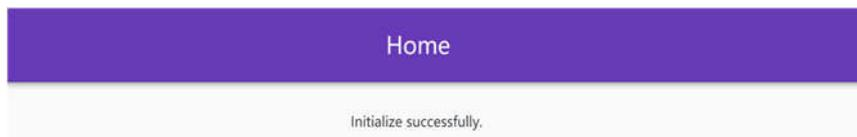

Figure E-8 Initialization Successful Interface
- 4) Click **"Initialize"**. The initialization takes about 2 min. If Initialize successfully is displayed (as shown in following figure E-8, the device is connected successfully, and you can go to the next step